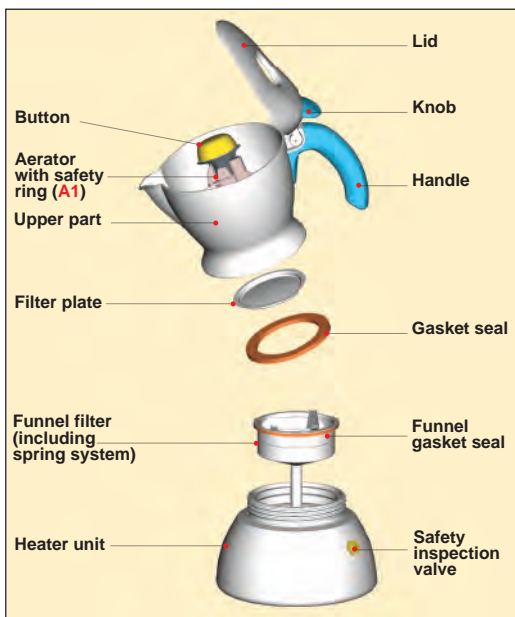

Fig. 1
- Make sure that the product is not damaged and all components are present and in the correct position (Fig. 1).